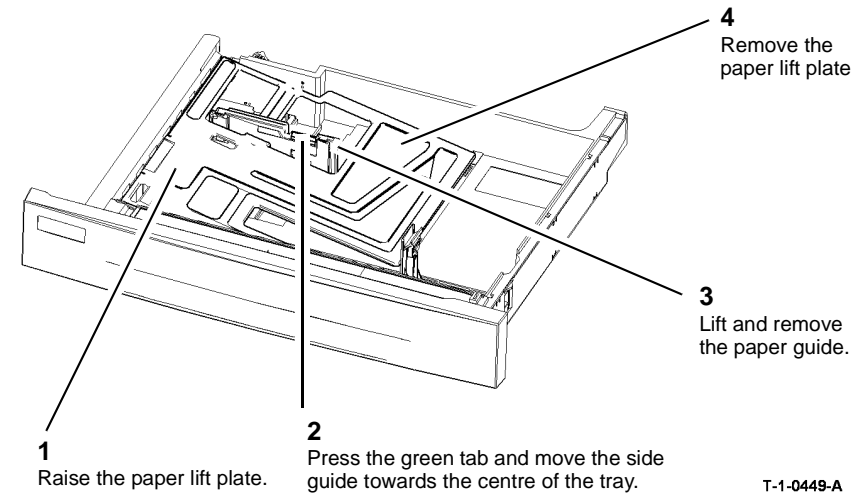

Figure 1 Paper width guide removal
- Remove the paper width guide and paper lift plate, Figure 1.